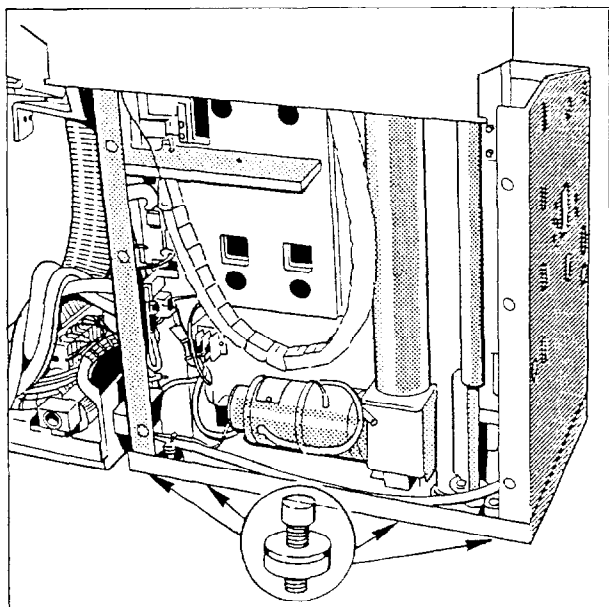
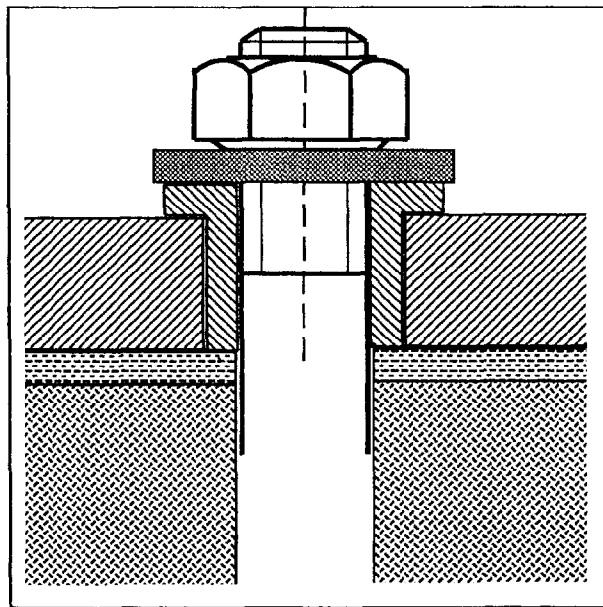

Fig. 9a
Fig. 9b
- Attach the lifting base of the basic unit to the floor by using the supplied insulating sleeves and washers (Fig.9b) and tighten with a torque of 85 Nm (Fig.9a).